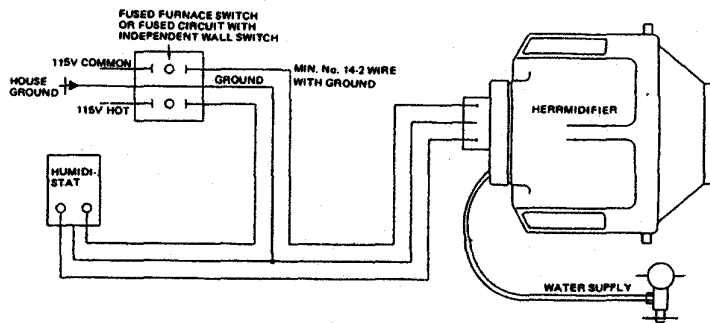
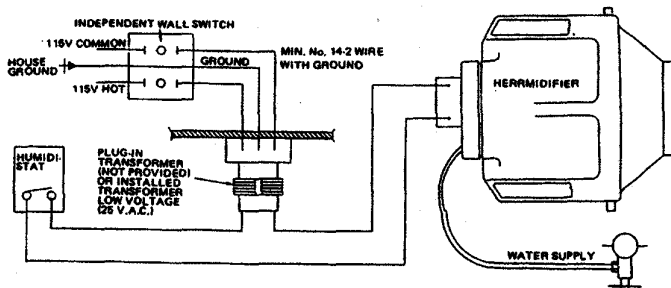

FIGURE 2 - WATER & ELECTRICAL CONNECTIONS
FIGURE 3 - WATER & ELECTRICAL CONNECTIONS
7. Use wiring approved for 115 Volt (FIG. 2) or 24 Volt (FIG. 3) as applicable. The humidifier and humidistat must be wired through the furnace blower such that the humidifier will not operate without airflow.